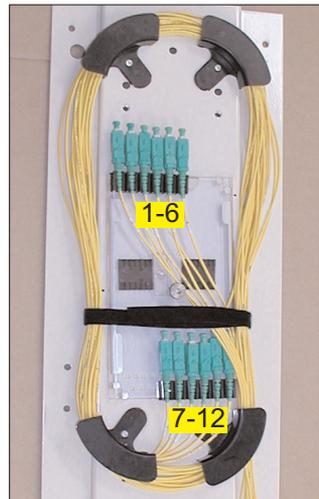

Fig. 32
- Wrap the simplex fibers around the radius limiters one at a time in reverse order (12,11,10,9.....) and park (Fig. 32).
- Secure the velcro strap over the buffer tubes, simplex fibers and the splice tray (Fig. 32).